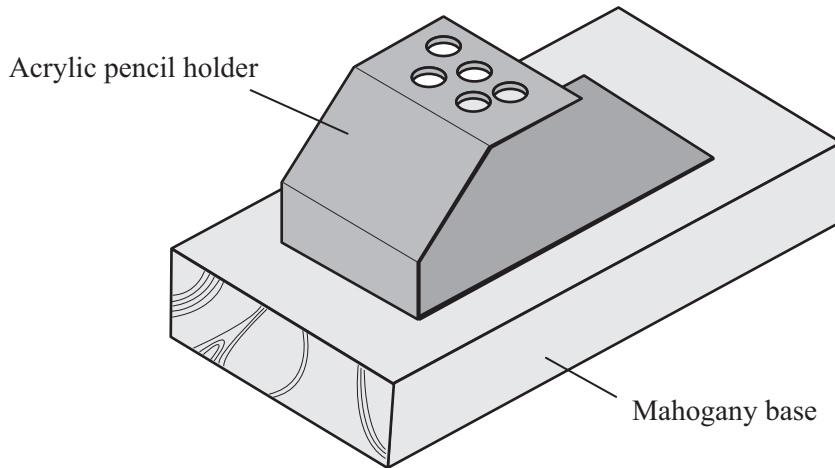

Fig. 12
- (b) A pencil holder made from acrylic is to be attached to a mahogany base as shown in **Fig. 12**. Suggest a suitable method of attaching the two pieces together that is different to any in the above Table.
- (c) How is the acrylic shaped as shown in **Fig. 12**?